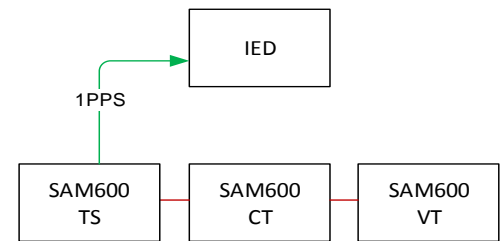

Figure 3: SAM600 free-running
- *Free-running* – A SAM600 system can operate in a free-running mode (see Figure 3) with no external time synchronization. The SAM600 system itself synchronizes internally by means of IEEE 1588 in order to ensure synchronous sampling of the analog data. If a SAM600-TS module is available in the system chain, then the 1PPS outputs are synchronized and can be used for synchronizing client devices such as IEDs.